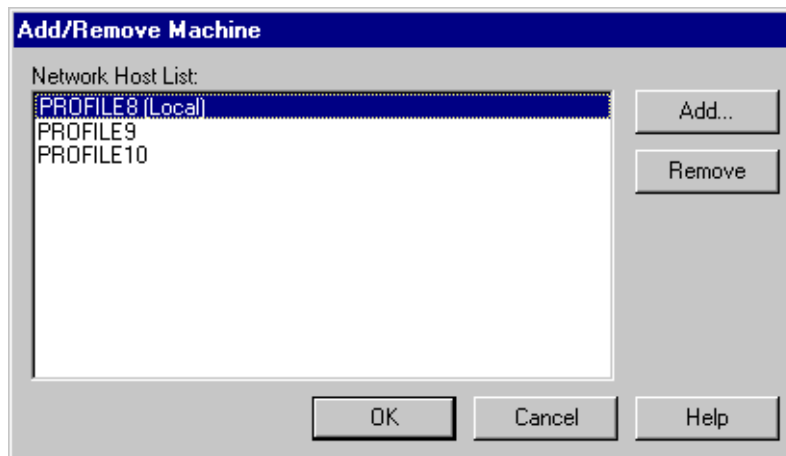

Figure 20. Add/Remove Machine dialog box
1. Choose **Add/Remove Machine** from the **File** menu or from the shortcut menu with a right-click on a machine, volume, or network icon in the tree pane. You can also click the **Add/Remove Machine** button on the toolbar. The Add/Remove Machine dialog box appears (see Figure 20). The label *Local* appears after the name of the local Profile machine.